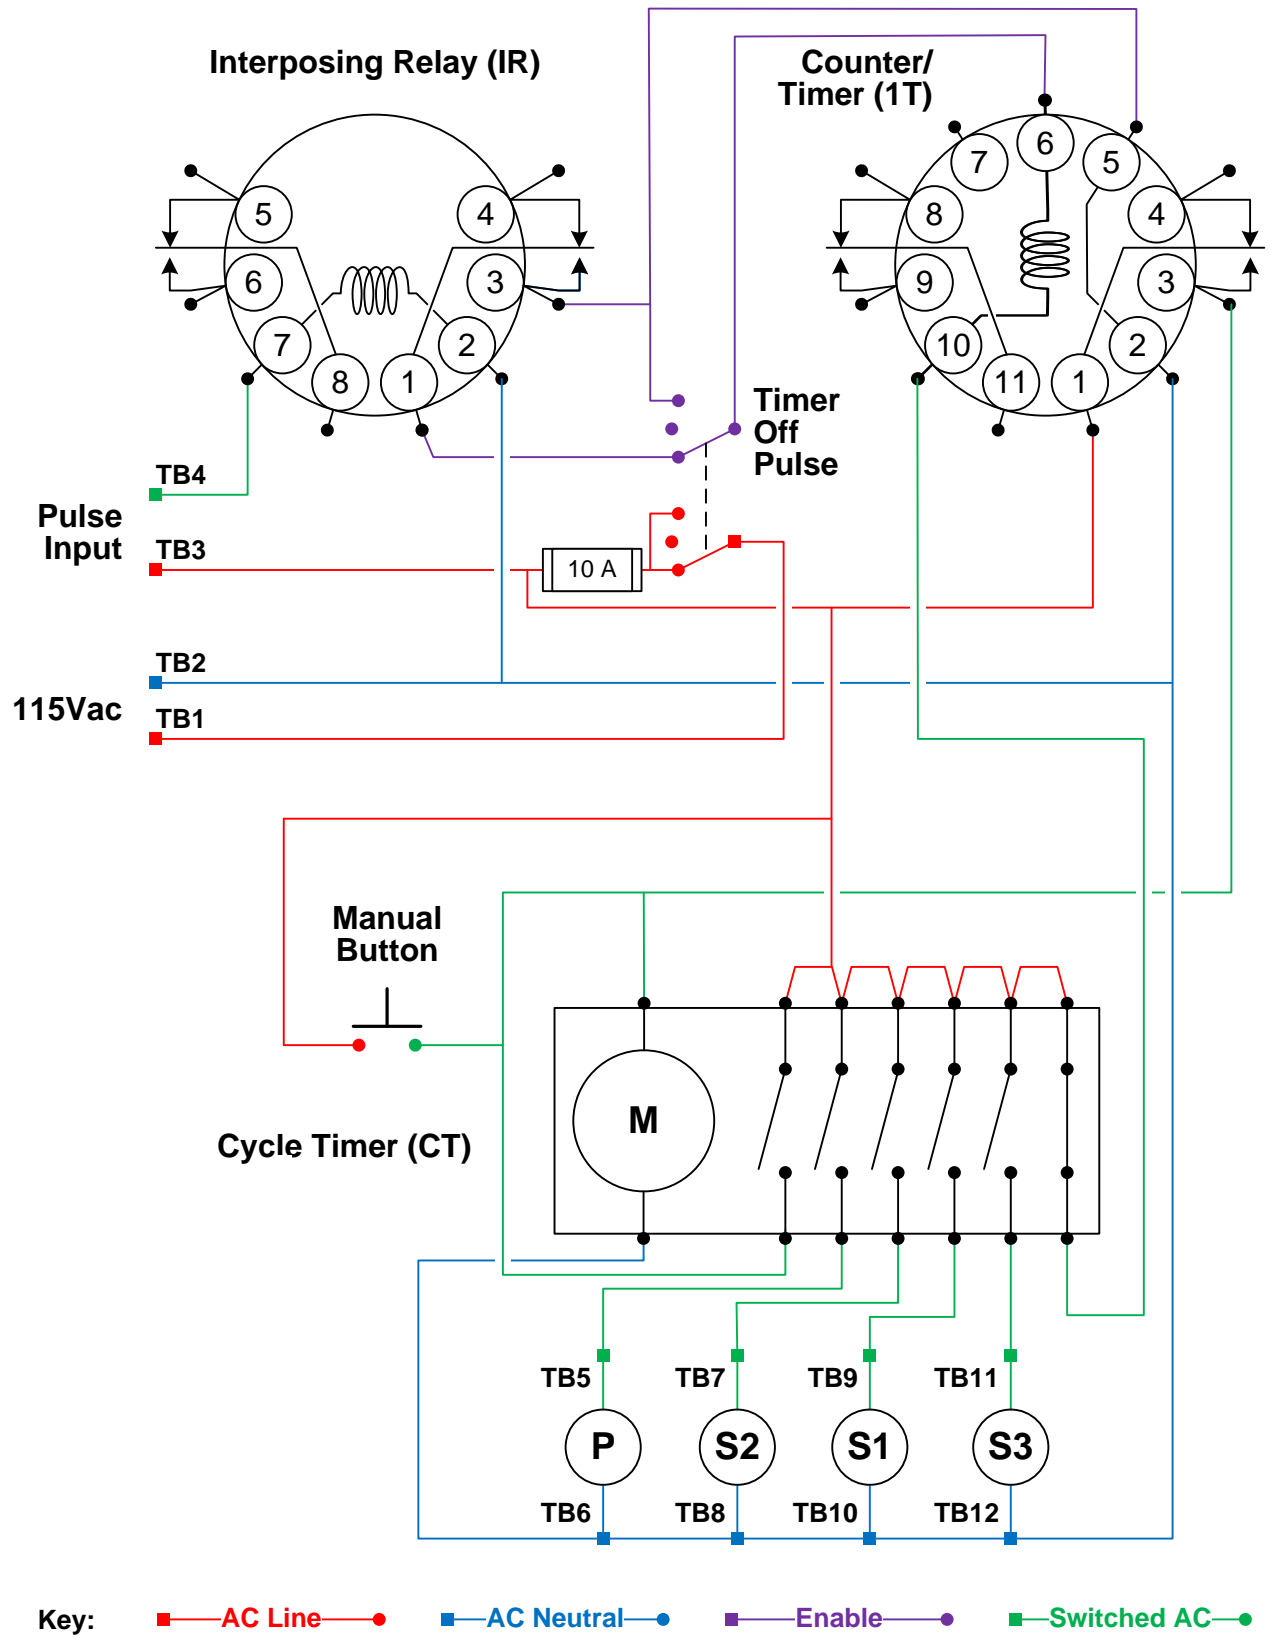

Figure 3-2: CVE-81 Timing Relay Circuit
Those steps are sequenced by the positions of the cams on the six rotating wheels of the cycle timer (CT), which have the following functions (see Figure 3-2 on page 12):